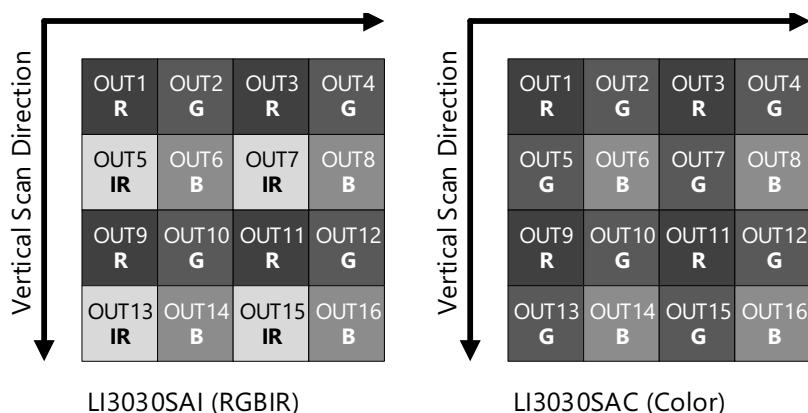

Figure 3-2. Pixel Color Filter Arrangement
***Figure 3-2** is RGBIR sensor (LI3030SAI) and Color sensor (LI3030SAC) version. Color filters are not installed in Monochrome sensor (LI3030SAM).